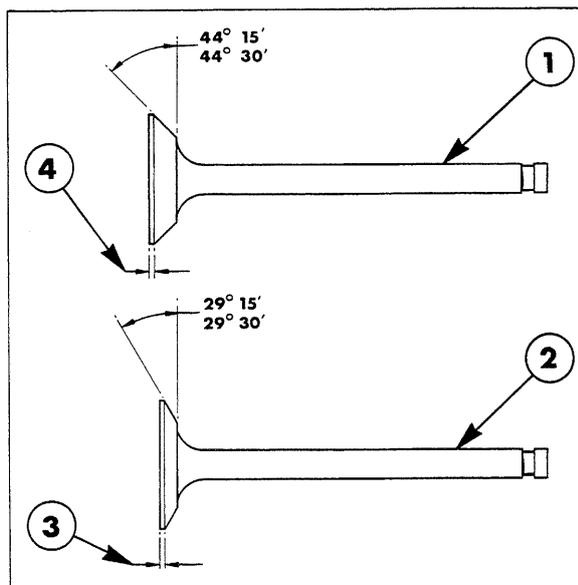

Figure 13
7. Examine the valve face and, if pitted, replace or reface by grinding to the dimension shown in Figure 13. Before refacing the valve, ensure the valve stem is not bent or worn and check the valve seat run-out, measured at right-angles to the seat, does not exceed a total of 0.0015 in. (0.038 mm).